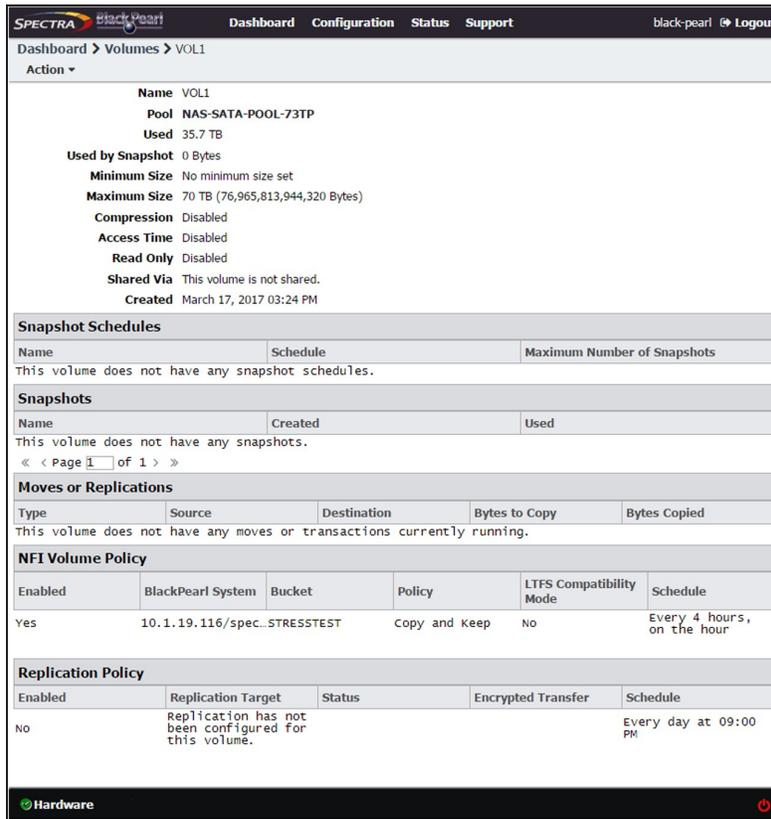

Figure 96 The Volume details screen.
1. On the Volume details screen (see Figure 96 on page 171), select **Action > New Snapshot Schedule**. The New Snapshot Schedule dialog box displays.
- On the Volume details screen (see Figure 96 on page 171), select **Action > New Snapshot Schedule**. The New Snapshot Schedule dialog box displays.